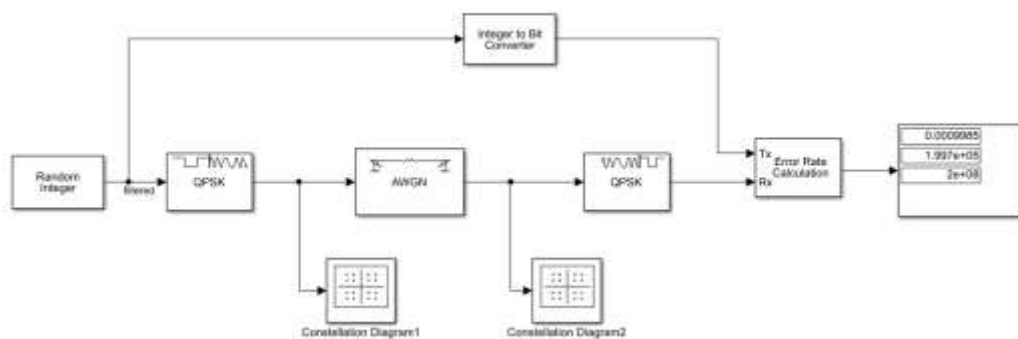

Figure 1. QPSK transmission link
1.1 Build the Simulink model shown in Figure 1.